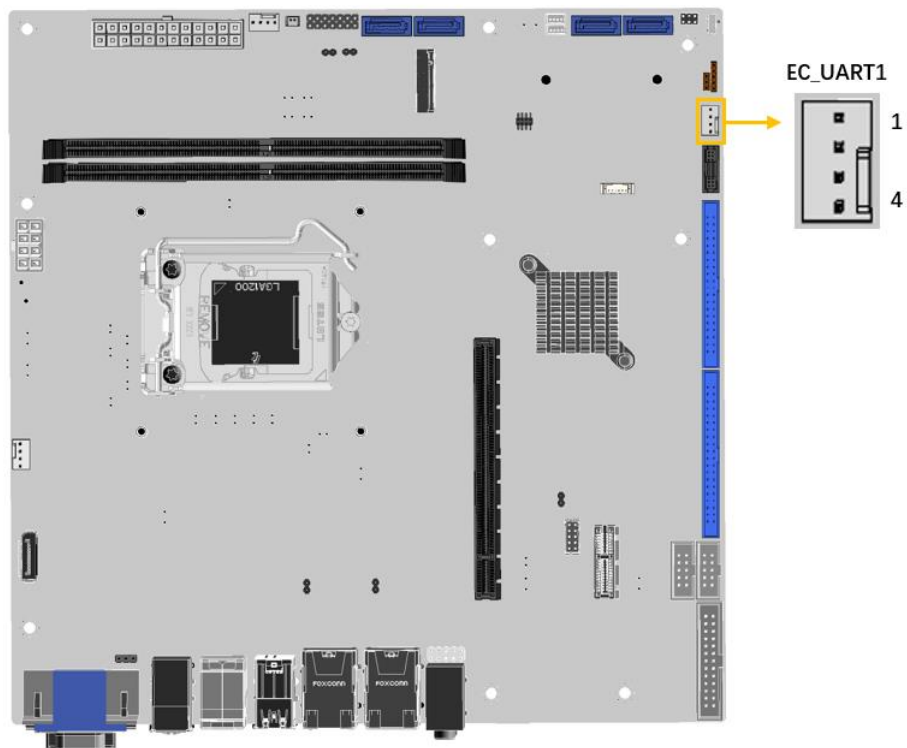

Figure 3-28: EC UART Debug Connector Location
- CN Location:** See Figure 3-28